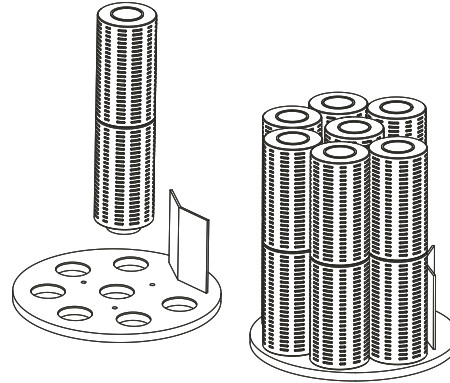

Figure 29.
8. Wiggle and press the cartridge with a little pressure because the cartridge O-ring is designed to fit tightly to ensure a better seal, Figure 29.